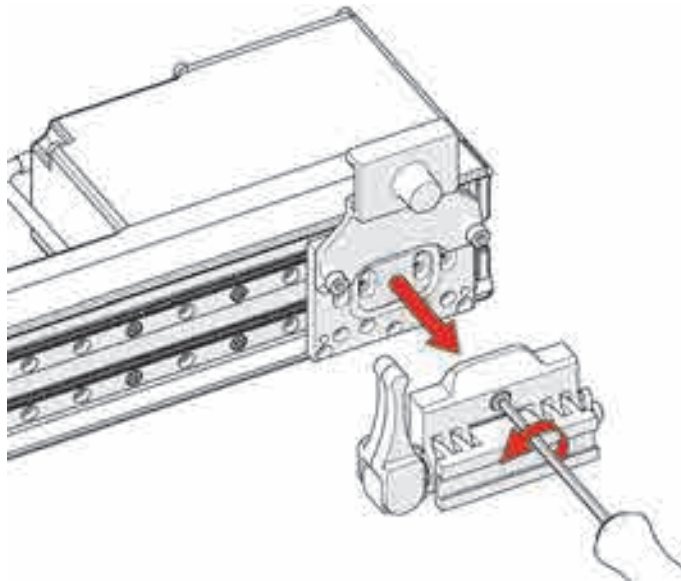

Figure 4-103 Remove pivot nose
2. Using the supplied 3 mm hex driver, remove the raster arm pivot nose (female) from the raster arm (see Figure 4-103 on page 168).